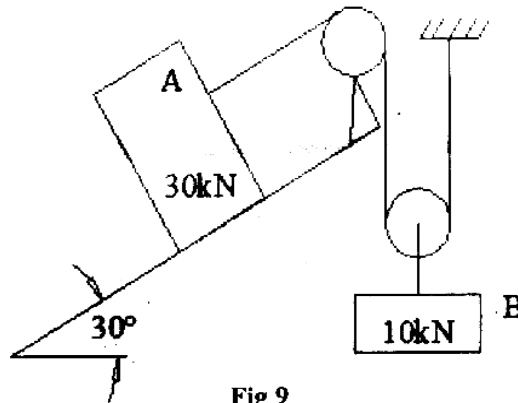

Fig 9
7. (a) Find the displacement of block A for fig. 9 after 5 seconds starting from rest Take $\mu = 0.1$